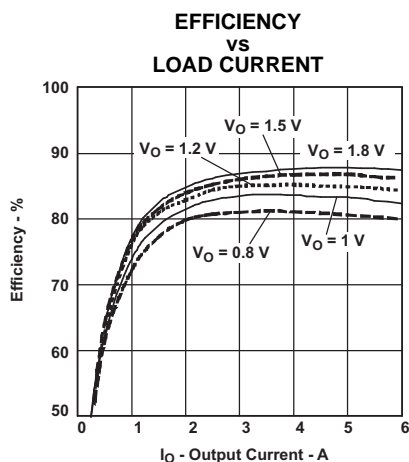
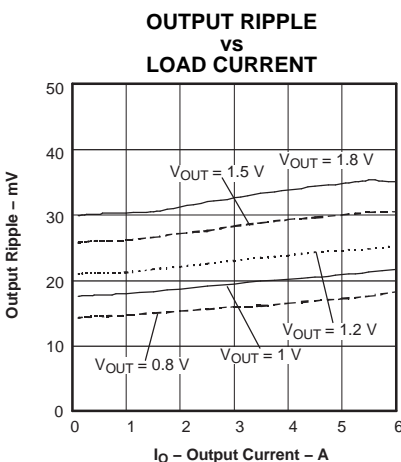
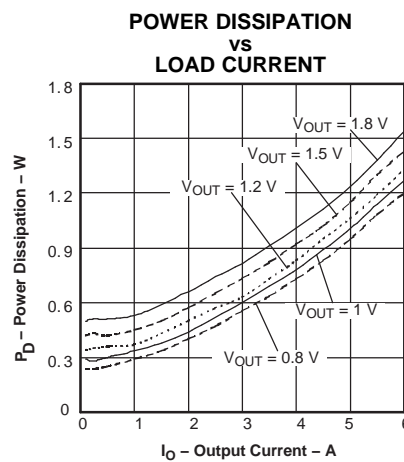

Figure 6.
Figure 7.
Figure 8.
- (1) Characteristic data has been developed from actual products tested at 25°C. This data is considered typical data for the converter. Applies to Figure 6, Figure 7, and Figure 8.